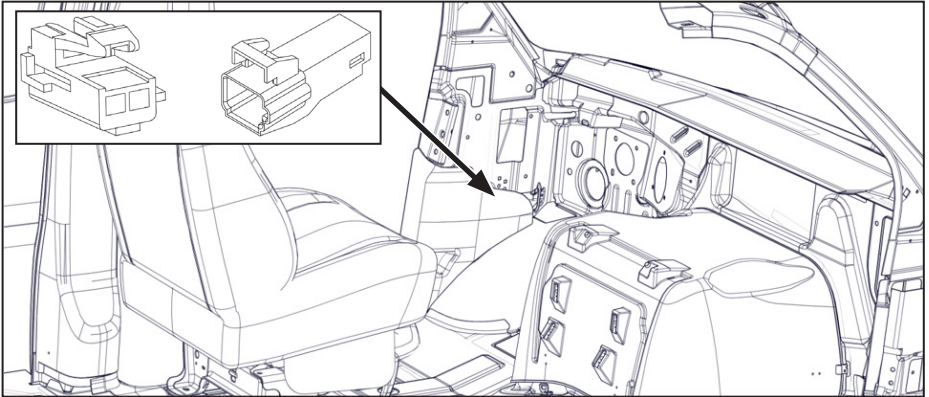

Figure 48 — X220 park brake connector location
- Route the black wire from the throttle control to the park brake connector X220 in the driver side foot-well (Figure 48).